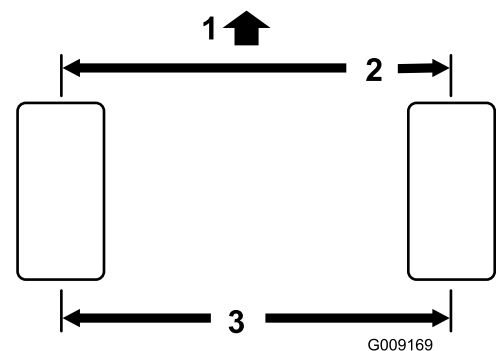

Figure 48
5. Measure the distance between the front tires at axle height at both the front and rear of the tires (Figure 48).